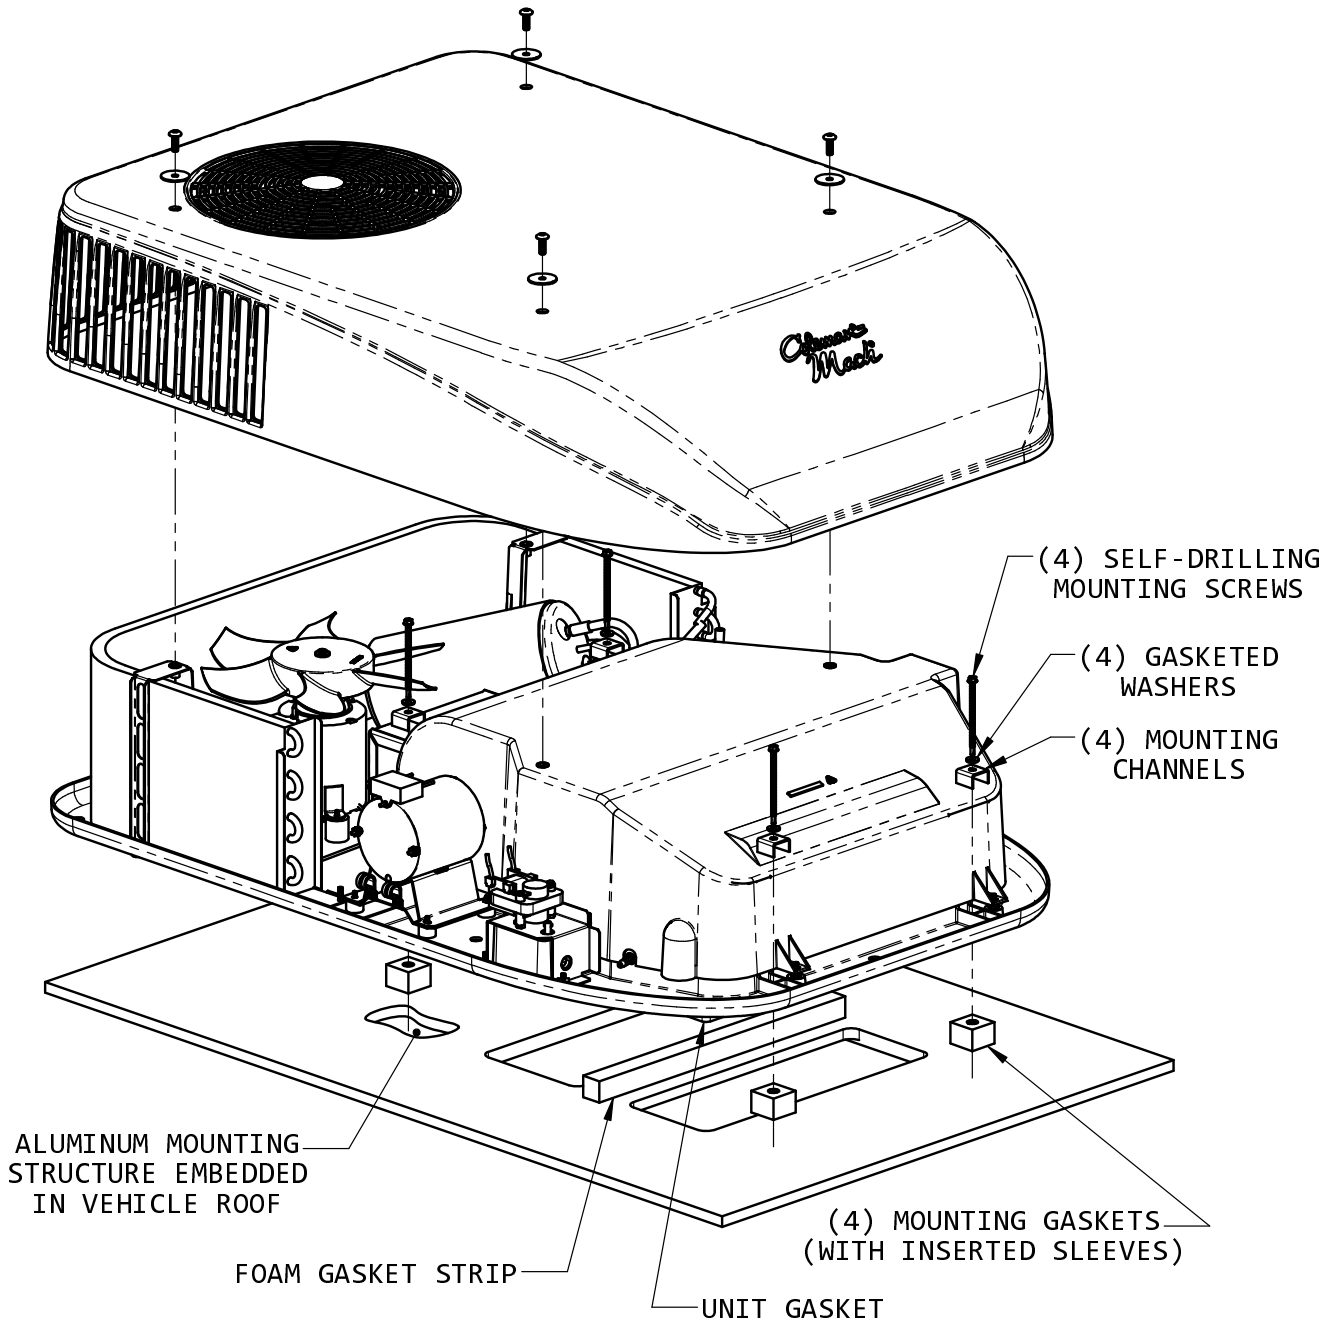

Figure 2
3. If needed, install foam gasket strip to bottom of unit basepan or to top of roof structure (as shown in Figure 2) to separate supply and return air ductwork.
7. Using the 4 provided self-drilling screws, gasketed washers and mounting channels, run the screws down through the sleeves and into the vehicle roof. Tighten screws just until the sleeves pull down to the roof. Use care to NOT STRIP THE SCREWS. See Figure 2.